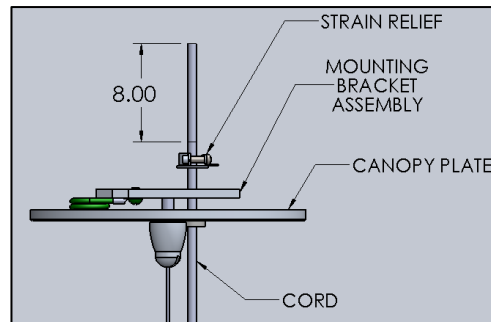

FIG. 44 – CORD INSTALLATION DETAIL
36. Feed the CORD through the corresponding hole in the MOUNTING BRACKET ASSEMBLY. Adjust CORD to desired length and mark the CORD. Make sure to leave minimum of 8.00" past the top of the STRAIN RELIEF for making wire connections to driver as shown below in FIG 44.